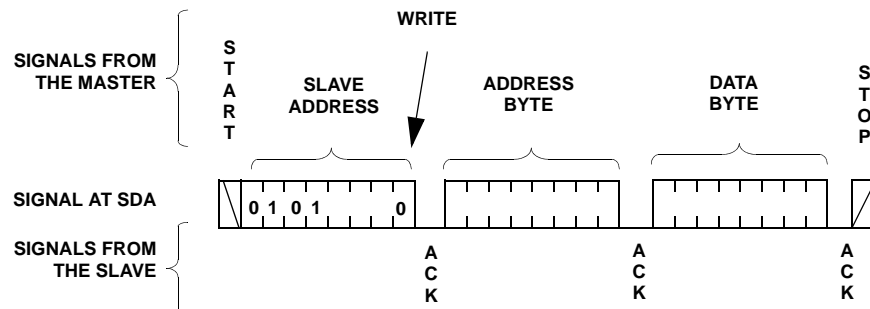
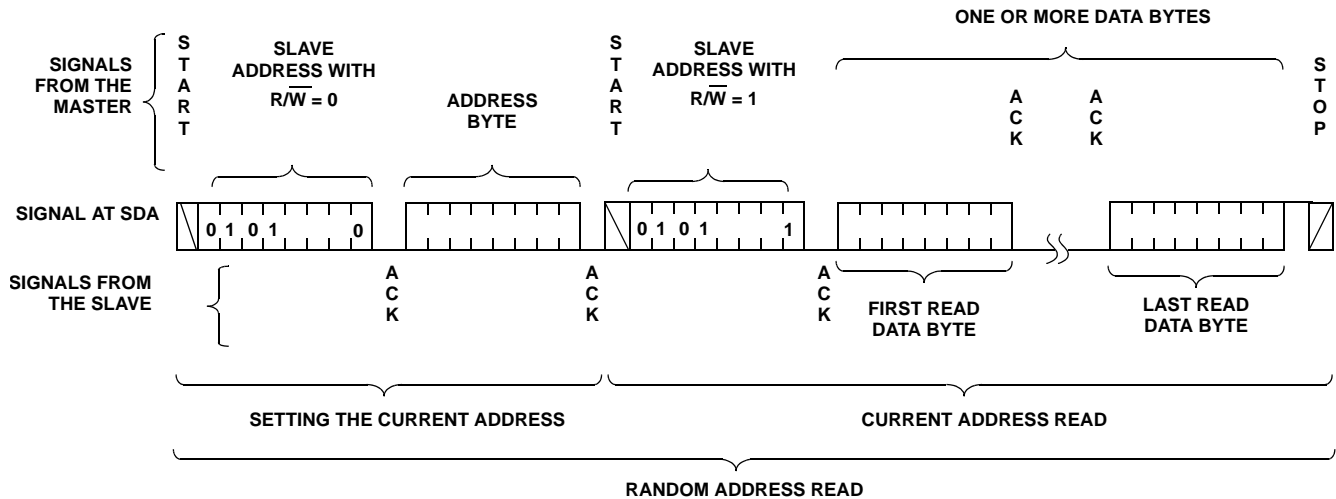

FIGURE 7. BYTE WRITE SEQUENCE
FIGURE 9. MOVE/READ SEQUENCE
14. Access the desired DR or WCR using a new write or read command (see Figure 7 for write and Figure 9 for read.)
For any Byte Write operation, the X9252 requires the Slave Address byte, an Address Byte, and a Data Byte (see Figure 7). After each of them, the X9252 responds with an ACK. The master then terminates the transfer by generating a STOP condition. At this time, if the write operation is to a volatile register (WCR, or SR), the X9252 is ready for the next read or write operation. If the write operation is to a nonvolatile register (DR), and the \overline{WP} pin is high, the X9252 begins the internal write cycle to the nonvolatile memory. During the internal nonvolatile write cycle, the X9252 does not respond to any requests from the master. The SDA output is at high impedance.
The Move/Read operation simultaneously reads the contents of a Data Register (DR) and moves the contents into the corresponding DCP's WCR and the WCRs of all DCPs are updated with the content of their corresponding DR. Move/Read operation consists of a one byte, or three byte instruction followed by one or more Data Bytes (see Figure 9). To read an arbitrary byte, the master initiates the operation issuing the following sequence: a START, the Slave Address byte with the R/W bit set to "0", an Address Byte, a second START, and a second Slave Address byte with the R/W bit set to "1". After each of the three bytes, the X9252 responds with an ACK. Then the X9252 transmits